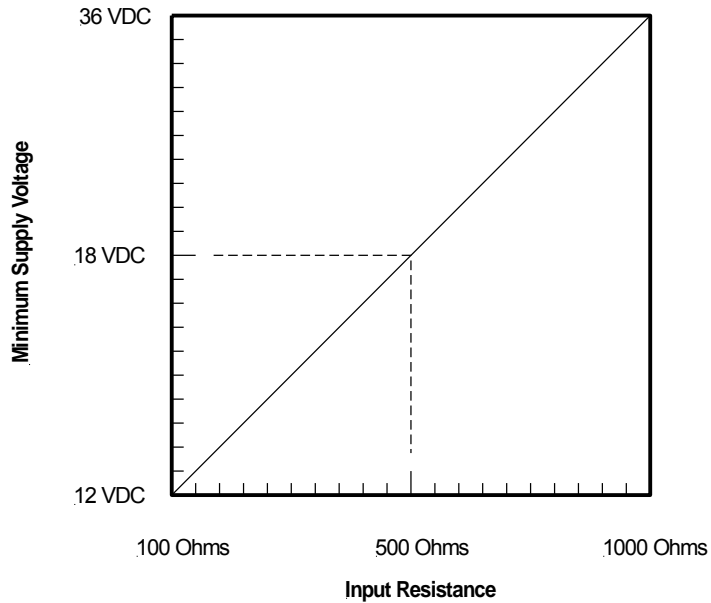

Figure A-3. Minimum Supply Voltage vs. Input Resistance
**Supply Voltage** The minimum supply voltage necessary for the analog output loops is a function of the resistance of the corresponding analog input. Figure A-3 illustrates the minimum voltage necessary as a function of input resistance.